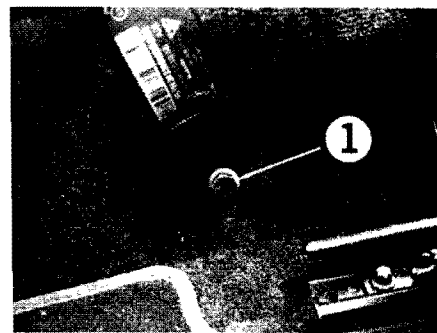

Figure 2
- 2 Tighten the fastening screw on the front left seat belt end fitting \Rightarrow Figure 2 -Pos. 1- to the specified torque.
- 2.2 Tighten the fastening screw on the seat belt end fitting \Rightarrow Figure 2 -Pos. 1- to the specified torque. **tightening torque 50 Nm**